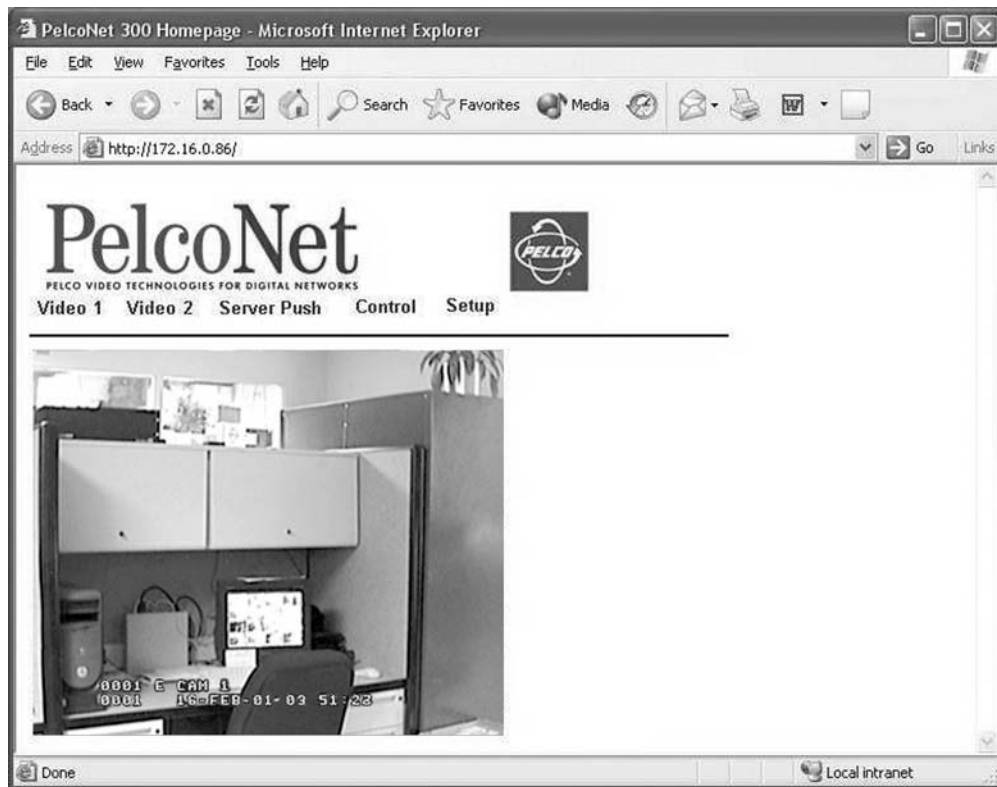

Figure 35. PelcoNet NET300 Home Page (Transmitter Shown)
- To activate the live video feature, click either **Video 1** or **Video 2** above the video window on the PelcoNet NET300 transmission system home page (refer to Figure 35). The unit transmits using MPEG-4 format for display in the browser.